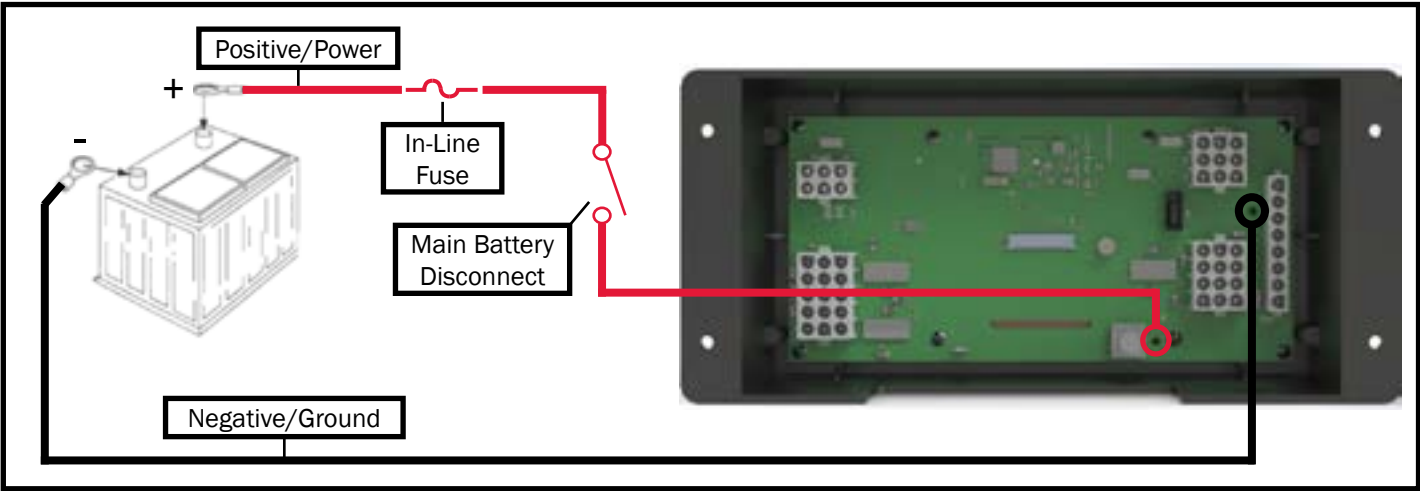

Figure 69
- Reference the schematics starting on page 43 and Figure 69.